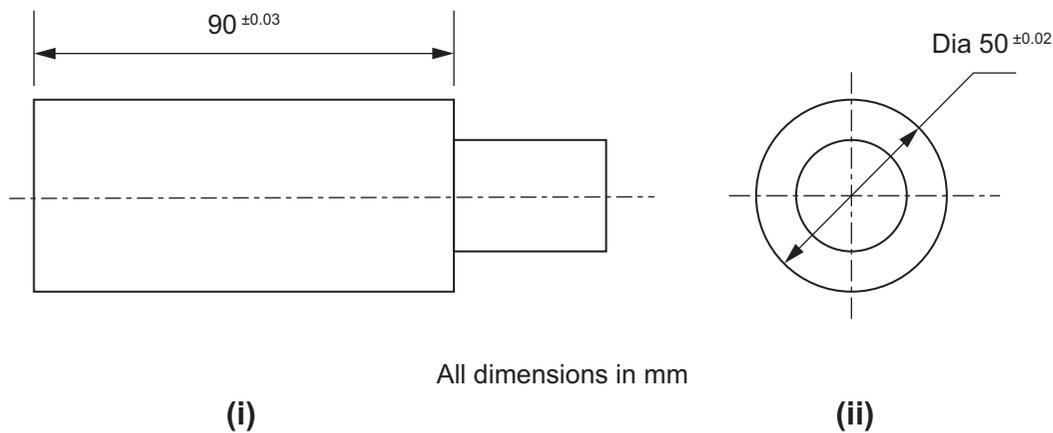

Fig. 3
- 6 An outline diagram of a manufactured component is shown in Fig. 3. The diagram also shows **two** key dimensions and their tolerance.